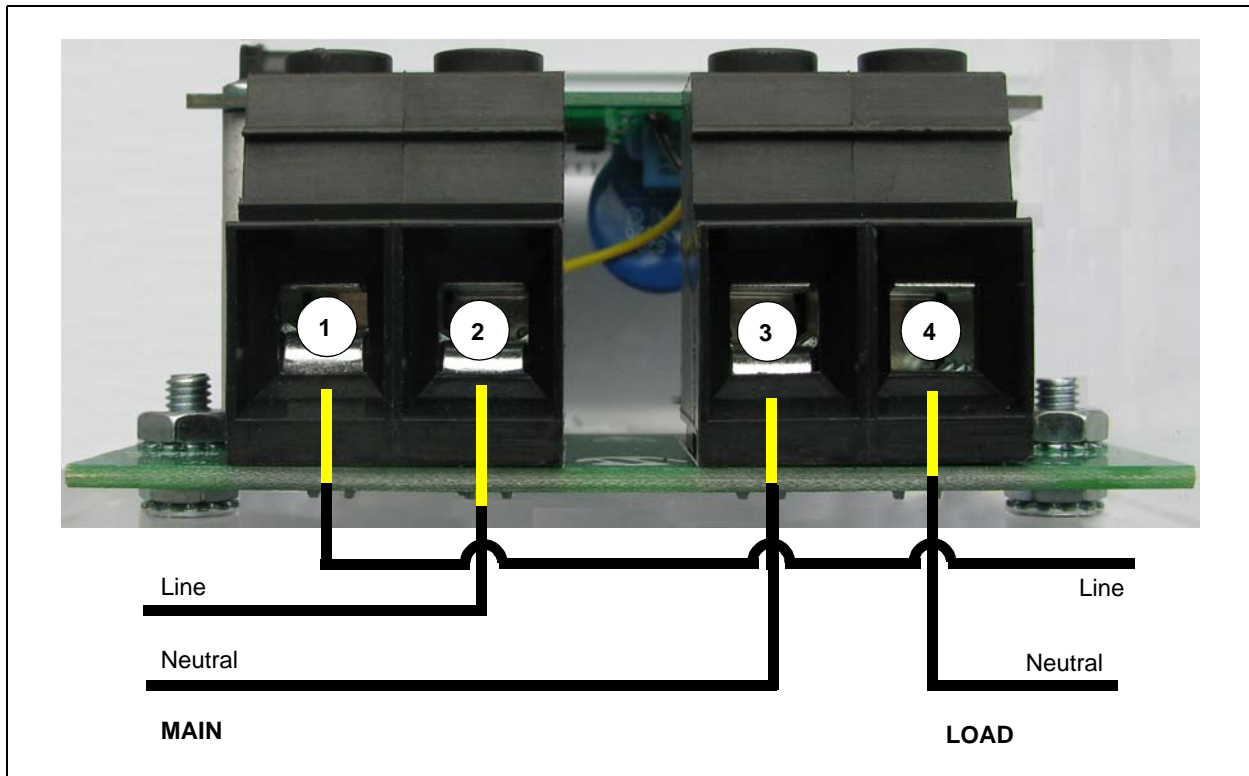

FIGURE 1-2: Example Connections using a Two-Wire System.
- Updated Figure 1-2.
Figure 1-2 is identifying the line and load connections of the MCP6L2 and PIC18F66J93 Energy Meter.